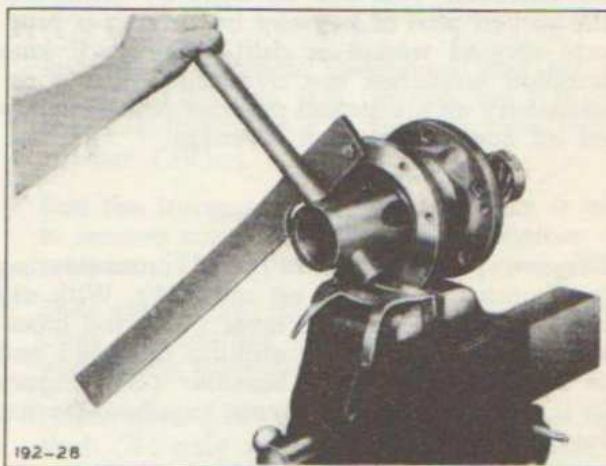

Fig. 21—Removing Drive Flange Nut
Bolt metal strap to drive flange (25). Hold flange in soft jaws of vise and remove drive flange nut (24). (See Figure 21).